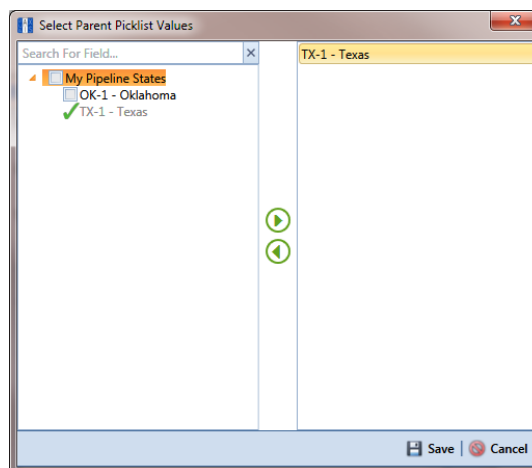

Figure 3-52. Select Parent Picklist Values
- d Map a data item in the parent picklist to the currently selected data item in the child picklist. A list of data items related to the parent picklist display in the left pane of the dialog box (Figure 3-52).
- Map a data item in the parent picklist to the currently selected data item in the child picklist (Figure 3-52, page 98). Click  **Save** when you finish to save settings and close the dialog box.
- 2) Map a data item in the associated parent picklist to the new data item in the child picklist in the following manner. A list of data items related to the parent picklist display in the left pane of the dialog box (Figure 3-52, page 98).